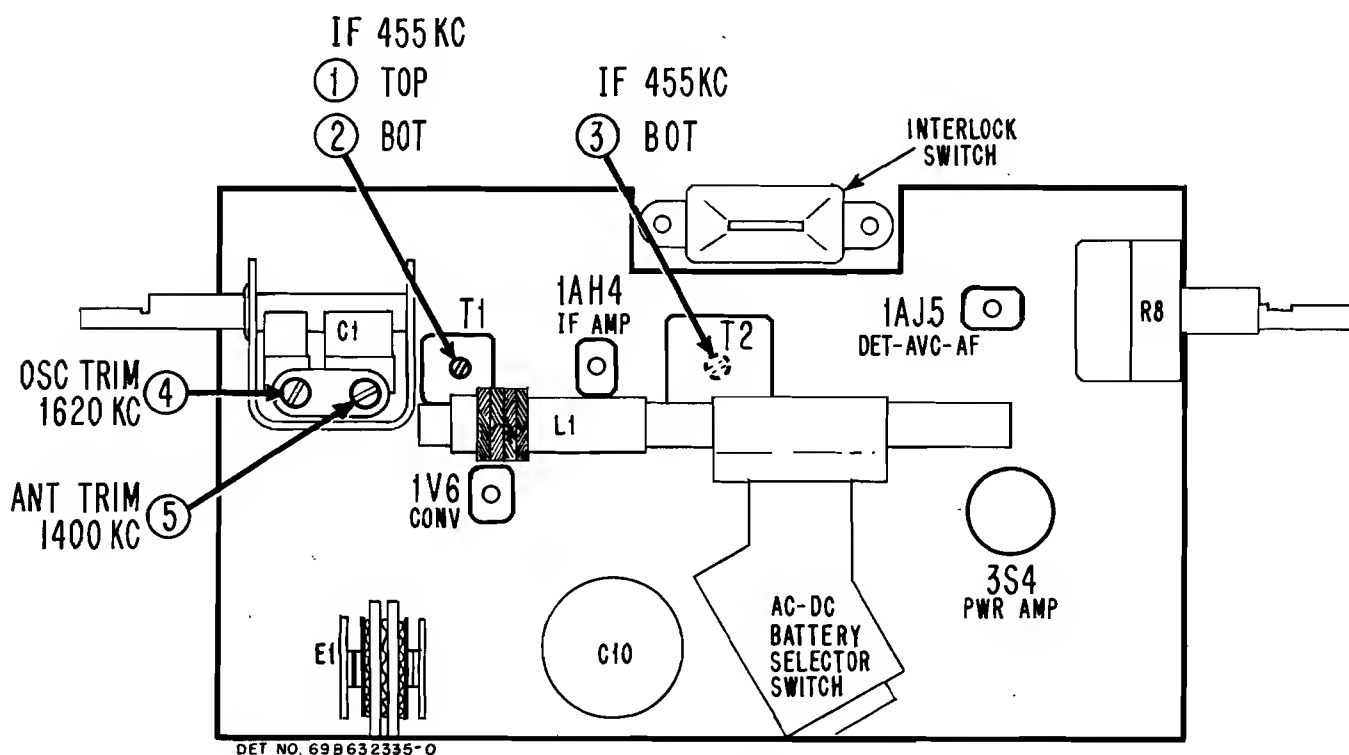

FIGURE 2. TUBE AND TRIMMER LOCATIONS
8. See Figure 2 for adjustment locations and the following chart for procedure.